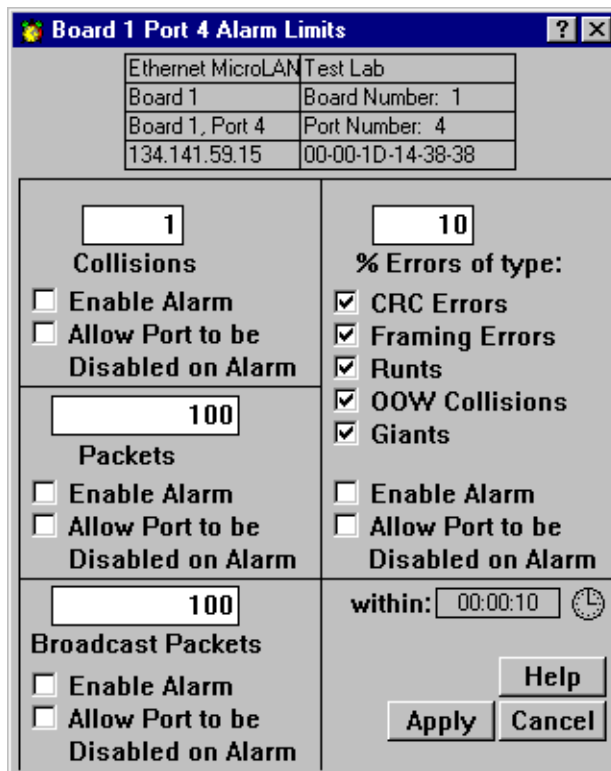

Figure 5-8. Port Alarm Limits Window
2. Select **Alarm Limits**. The Port Alarm Limits window, Figure 5-8, will appear.